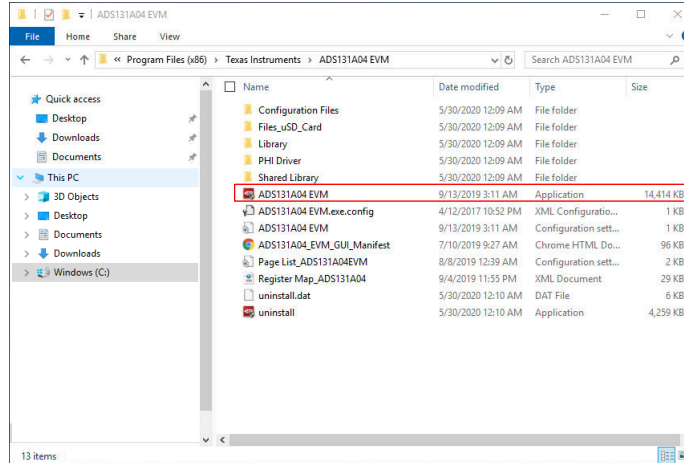

Figure 2-2. Launch the EVM GUI Software
- Launch the ADS131A04EVM GUI software as by clicking the ADS131A04EVM executable shown in Figure 2-2.